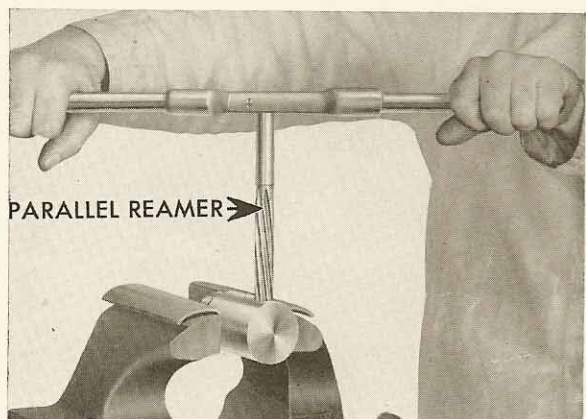

FIGURE 8-23
37. REAMING: A hole can be enlarged by turning it to a larger diameter with a tool called a reamer. This is somewhat similar to a tap except that it cuts a smooth bore instead of a threaded one. Reamers may be straight, cutting a hole of constant diameter, or tapered, cutting a hole that slopes steadily to a decreased diameter. A parallel reamer opening up a hole in a shaft is shown in Figure 8-23.